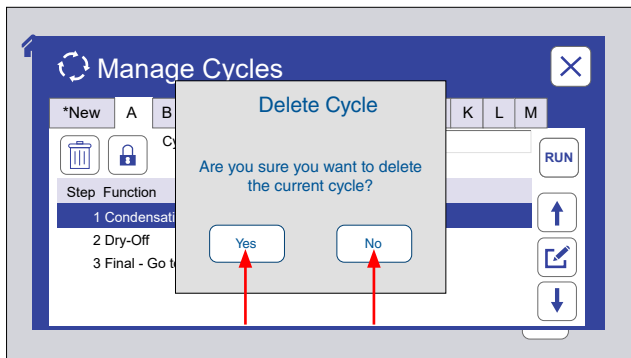

Figure 8.7.2c: To delete an inactive cycle, the operator is prompted for verification. Touch No to cancel delete. Touch Yes to create a blank cycle.
- Deleting an inactive cycle will create a blank cycle with only a final step (Figure 8.7.2c).